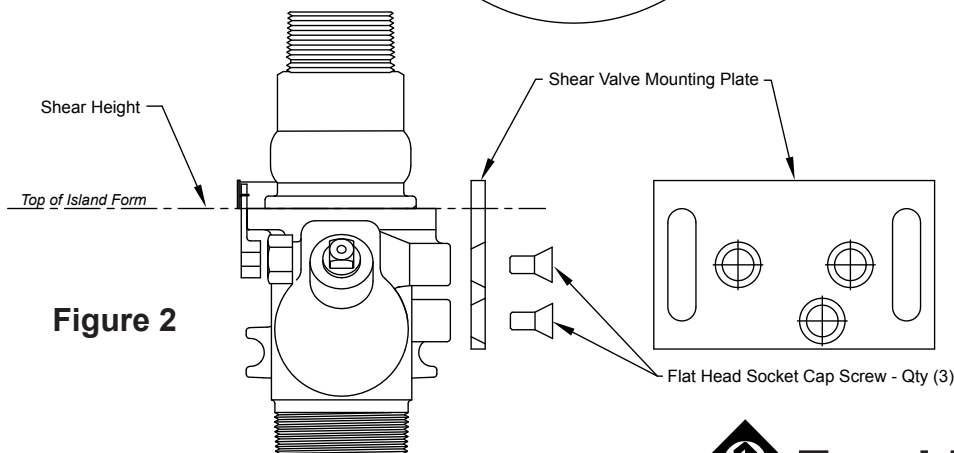

Figure 2
3. Place two spring nuts into each uni-strut approximately 2½" apart by pushing the nuts in spring first and lengthwise with the opening. Compress the spring and lock the nuts by turning them clockwise into the uni-strut. See Figure 2.